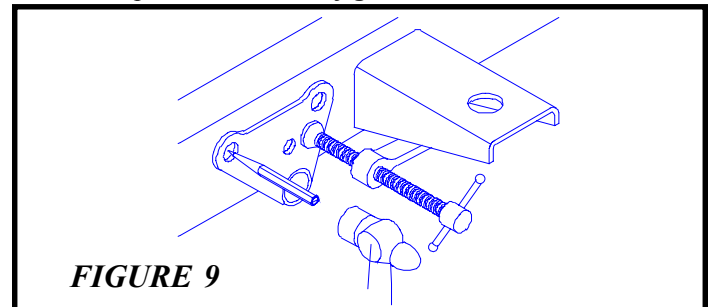

FIGURE 9
- Using the rear mount bracket as templet mark the center of each of the three mount points with a center punch as shown in *figure 9*.